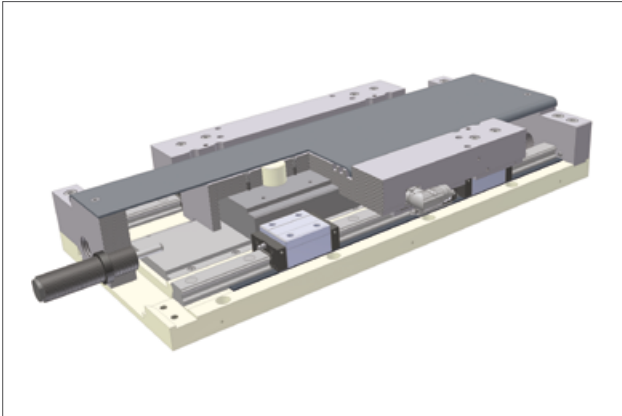

Figure 5.13 — AXLM with cover plate
- Optimal protection of the inside placed guiding and drive elements by the optional use of bellows or cover plates (Figures 5.13 and 5.14)